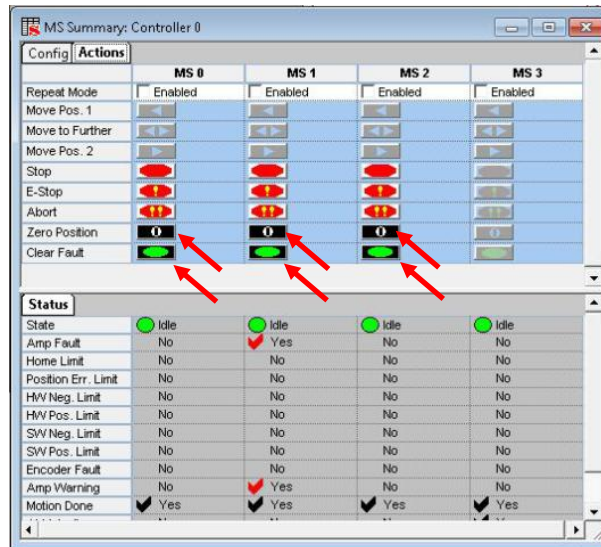

Figure 9 MS Summary (Motion Supervisor Summary)
8. Reset all MS0, MS1 and MS2 at the MS Summary (Motion Supervisor Summary) as shown in Figure 9.